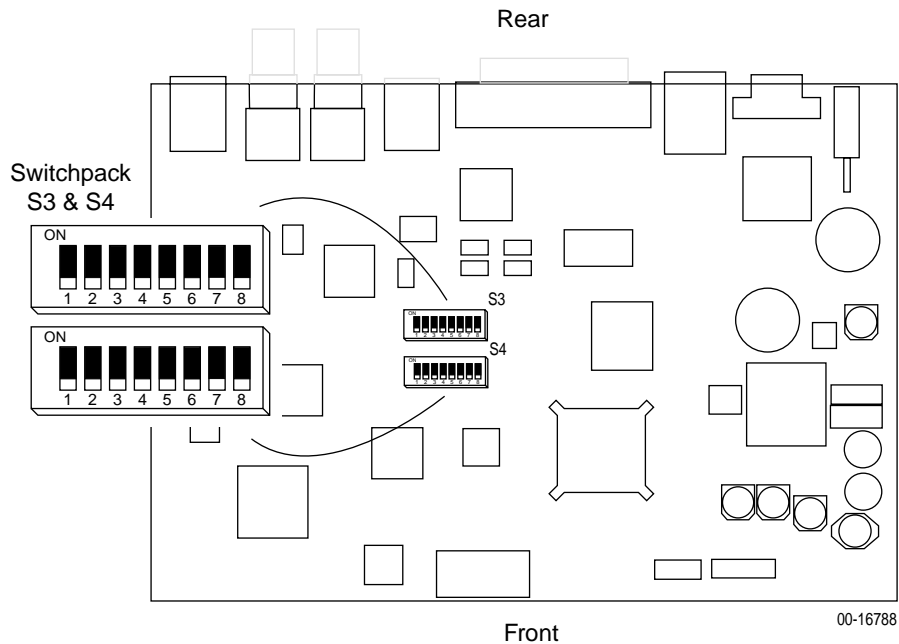

Figure 4-1. Hotwire Standalone Termination Unit's Switchpack Locations
Use internal Switchpacks S3 and S4 to manually configure the unit. Use Figure 4-1, Hotwire Standalone Termination Unit's Switchpack Locations, to locate Switchpacks S3 and S4.
3. Locate Switchpack S4 on the circuit board using Figure 4-1, Hotwire Standalone Termination Unit's Switchpack Locations.
5. Set the switches to the desired configuration. Refer to Figure 4-1, Hotwire Standalone Termination Unit's Switchpack Locations, and Tables 4-1 through 4-11.
To locate Switchpacks S3 and S4, refer to Figure 4-1, Hotwire Standalone Termination Unit's Switchpack Locations.